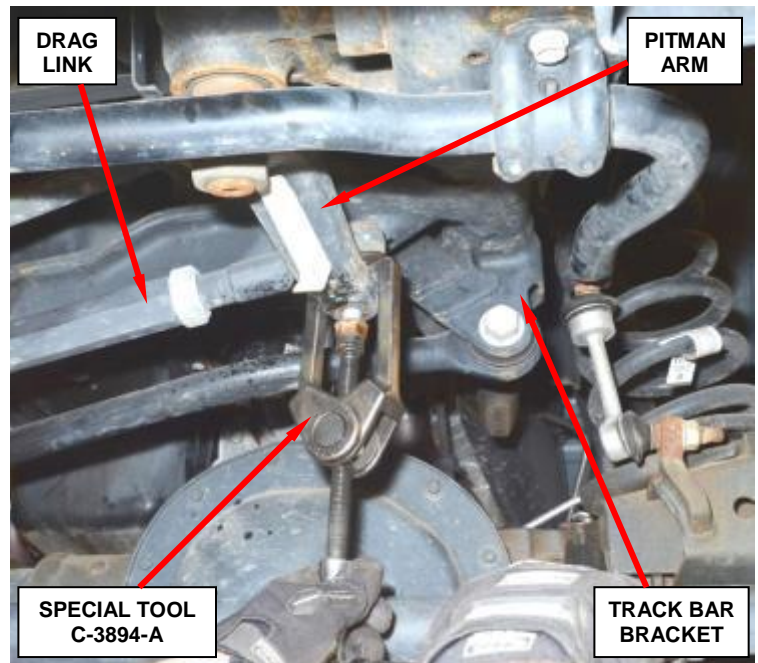

Figure 4 – Disconnect Drag Link from Pitman Arm
9. Using special tool C-3894-A, disconnect the drag link from the pitman arm (Figure 4).